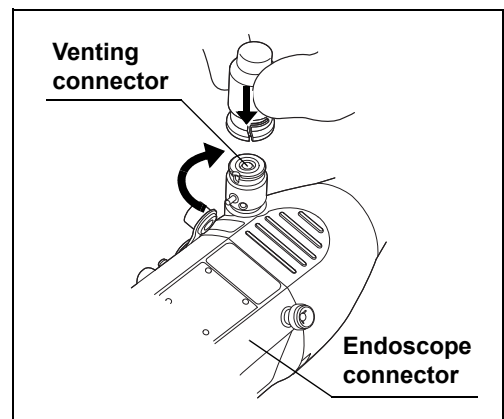

Figure 5.12
- 4 Turn the endoscope side connector of the ALT-Pro leak test air tube clockwise until it stops, pushing it to the venting connector as shown in Figure 5.12.